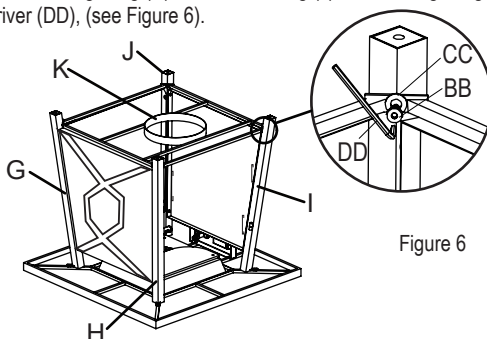

Figure 6
6. Attach gas cylinder support (K) to back-left leg (G) and back-right leg (H) and front-left leg (J) and front-right leg (I) with bolts (BB) and washer (CC) using hex screw driver (DD), (see Figure 6).